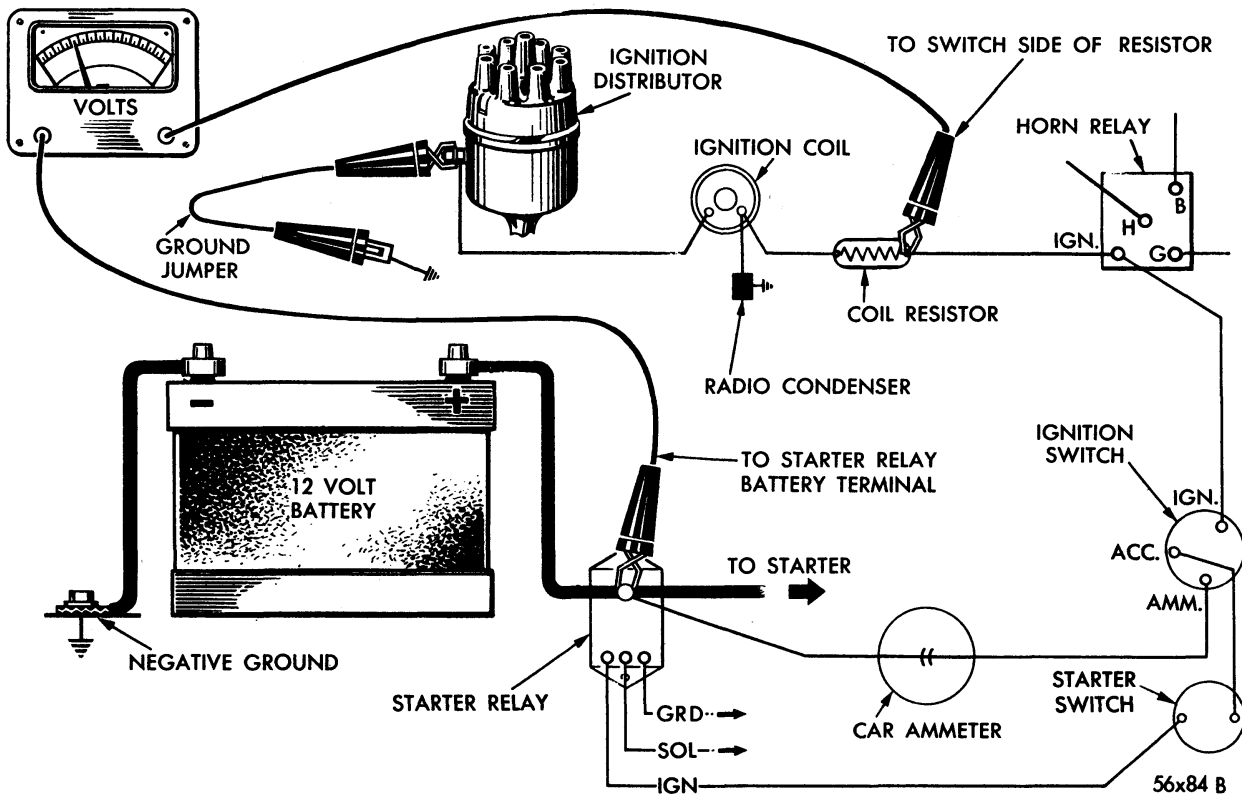

Fig. 18—Testing Primary Circuit Resistance
36. TESTING PRIMARY CIRCUIT RESISTANCE (FIG. 18)
contacts. Connect low reading voltmeter (with scale divisions of $\frac{1}{10}$ volt) from switch side of resistor to battery connection at relay or junction block (Fig. 18).